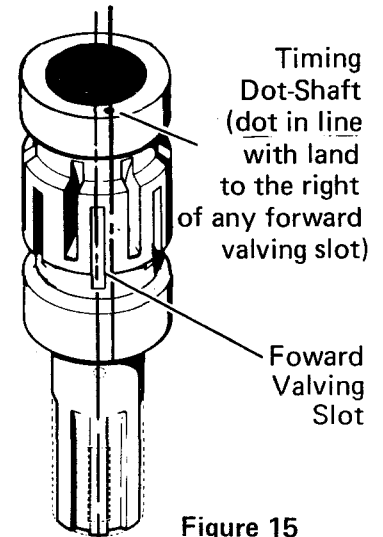

Figure 15
**Note:** To help with timing procedures, a timing dot is machined on output shaft and drive of motors produced after Nov. 1, 1976. For motors without timing dots, use a grease pencil to mark area shown in Fig. 15 before assembly.
**Note:** On motors produced after Nov. 1, 1976, timing dots are machined on the shaft and drive. The timing procedure outlined here uses these marks. For older motors without timing dots, make dots on the parts indicated before assembling. (See Fig. 15 and 26).